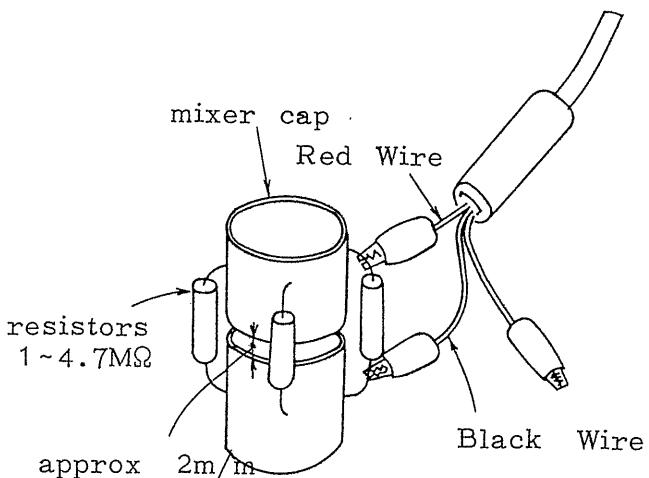

Fig. 4-2
(C) Clip mixer cap with attached cable of 200 ohms wire as indicated in Fig. 4-2. (When there is not mixer cap, connect to test point.)